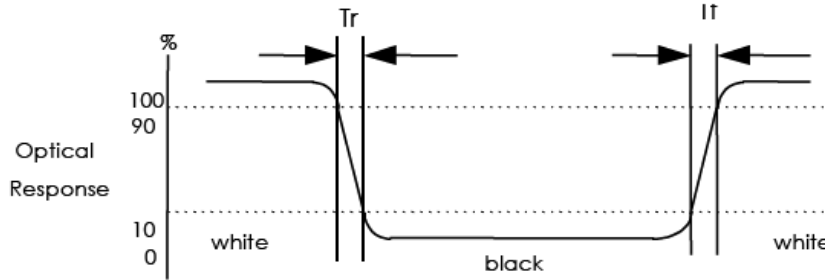

FIG. 2 Measuring method for Contrast ratio, surface luminance, Luminance uniformity , CIE (x, y) chromaticity
| Contrast ratio | Cr | | 200 | 300 | - | --- | FIG 2. | 1 |
| Luminance uniformity | δ WHITE | | 70 | 80 | - | % | FIG 2. | 3 |
| Surface Luminance | Lv | | - | 590 | - | cd/m ² | FIG 2. | 2 |
| CIE (x, y) chromaticity | Red | θ=0° ∅=0° Ta=25°C | x | - | 0.605 | - | FIG 2. | 5 |
Note 1. Contrast Ratio(CR) is defined mathematically as For more information see FIG 2.
Note 2. Surface luminance is the LCD surface from the surface with all pixels displaying white. For more information see FIG 2.
Note 3. The uniformity in surface luminance , δ WHITE is determined by measuring luminance at each test position 1 through 5, and then dividing the maximum luminance of 5 points luminance by minimum luminance of 5 points luminance. For more information see FIG 2.